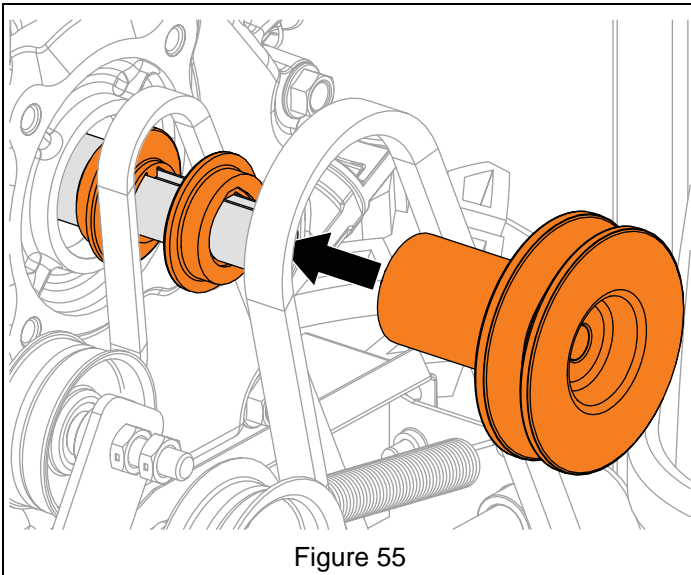

Figure 55
See Figure 55.
- IMPORTANT:** Traction sheave halves must be reinstalled in the orientation shown in Figure 55.